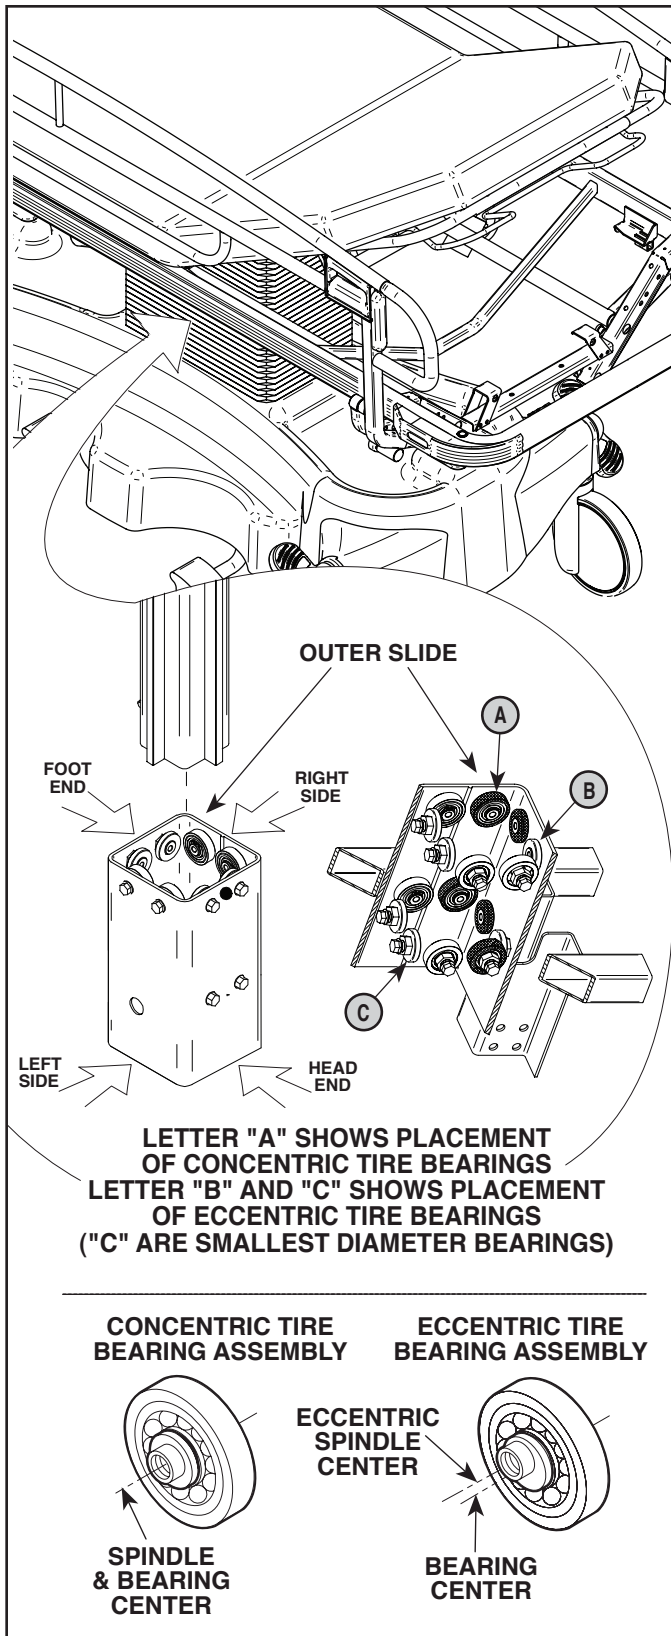

Figure 4-15. Tire Bearing Adjustment
- (1) There is no adjustment for concentric tire bearings (see letter "A" for location of concentric tire bearings). Their center spindle is concentric (round) and does not affect the tightness of the column. See Figure 4-15.